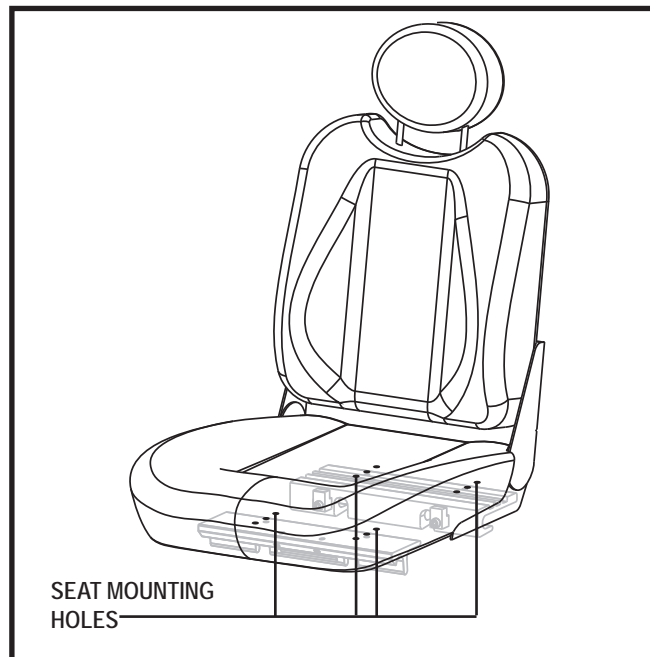

Figure 13. Seat Position Adjustment
7. Reposition the extrusions on a different set of mounting holes. You must move both extrusions the same number of holes either forward or backward. **See figure 13.**